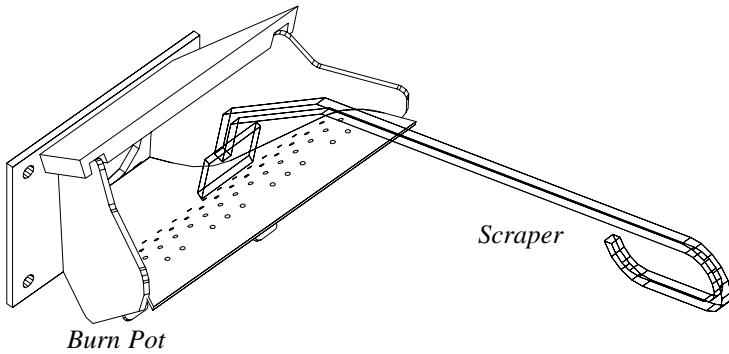

Fig. 14
- * Clean burn pot (scrape carbon loose with scraper), fig. 14. If the fire is pushing out more in the middle of the burnpot than before or pushing partially burned pellets off the edge, these are indications that the burnpot needs to be cleaned.